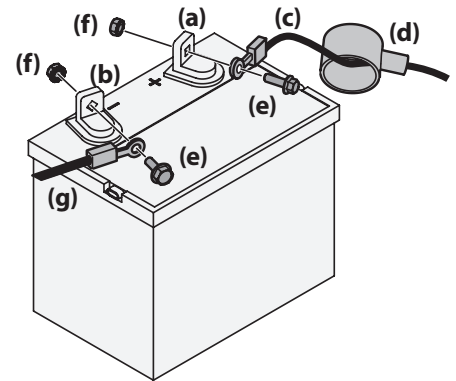

Figure 2-20
2. Remove the red boot (d), if present, from the positive battery terminal (a) and attach the red cable (c), positive cable for the electric deck lift (if equipped) and positive cable for the 12V outlet (if equipped) to the positive battery terminal (a) with the bolt (e) and hex nut (f). See Figure 2-20.
4. Attach the black cable (g), negative cable for the electric deck lift (if equipped) and negative cable for the 12V outlet (if equipped) to the negative battery terminal (b) with the bolt (e) and hex nut (f). See Figure 2-20.